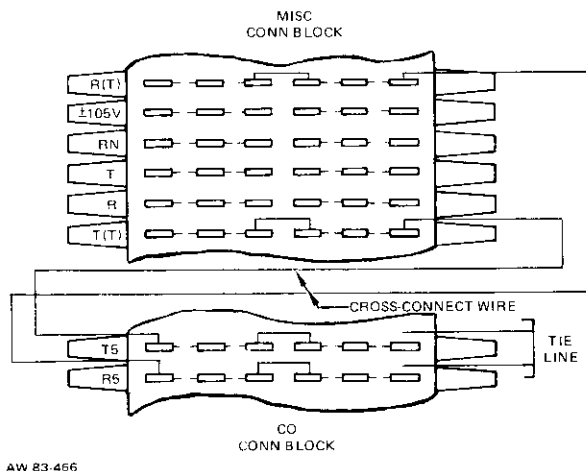

Figure 26: Connecting Details, 414A KTU to Tie Line
- (4) Connect terminal C39 to terminal LG.
- (5) Connect terminal C40 to terminal $\pm 10V$.
- (6) Connect terminal C41 to terminal BG.
- (7) Connect terminal C42 to terminal BB.
- (8) Connect terminal C43 to terminal AG.
- (9) Connect terminal C44 to terminal AB.
- (10) Connect terminal C48 to terminal $\pm 105V$.
- (11) Connect terminal C49 to terminal RG.
(c) On the MISC connecting block, connect the terminals across from terminals R(T) and T(T) to the CO connecting block for connection to the distant office. Connection details are shown in Figure 26.